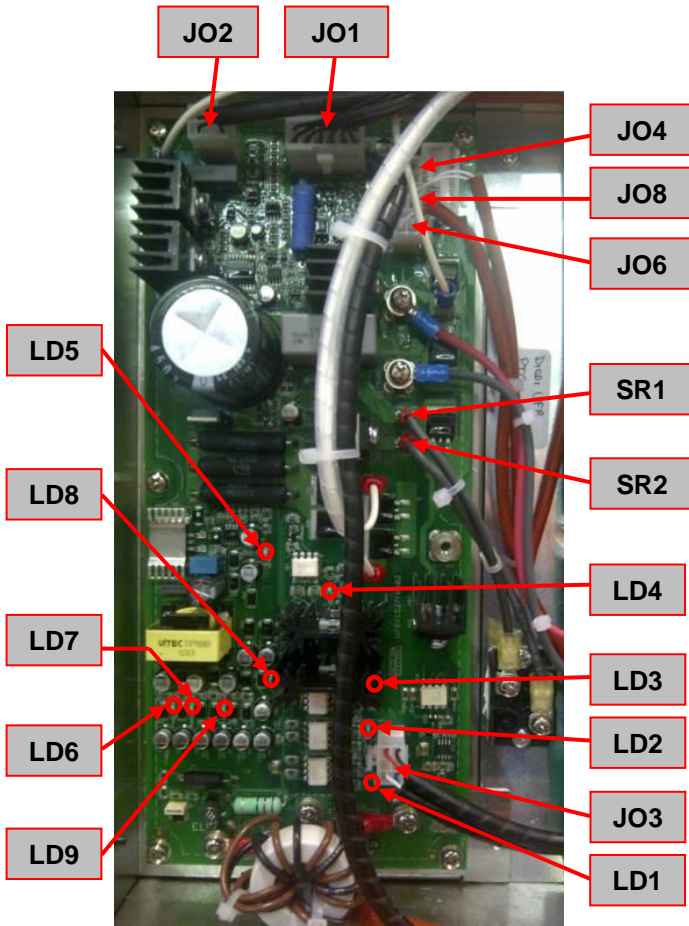

Figure 13 – W05X1527 OUTPUT Board Test Points
- 5. Perform the tests detailed in **Test Table 9**. See **Figure 13** for Test Point locations:
8. Perform the tests detailed in **Test Table 10**. See **Figure 13** for Test Point locations: